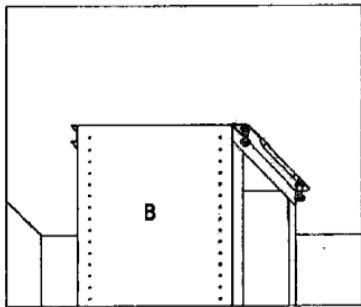

Figure 7
- Take the upper part of the telescopic structure (structure B) and insert 3 slots onto the 3 screws that are not completely tightened and then rotate slightly to fit. (Figure 7).